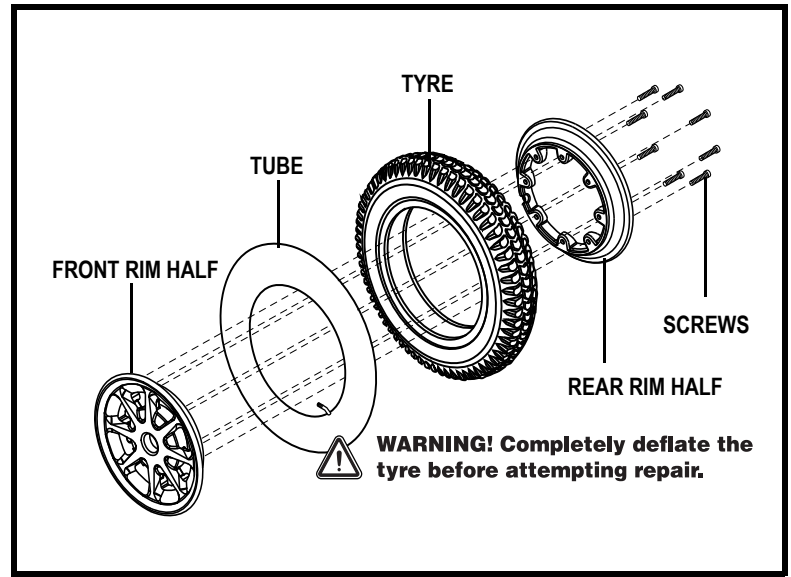

Figure 33. Drive Wheel Disassembly
7. Remove the old tube from the pneumatic tyre and replace it with a new tube. See figure 33.